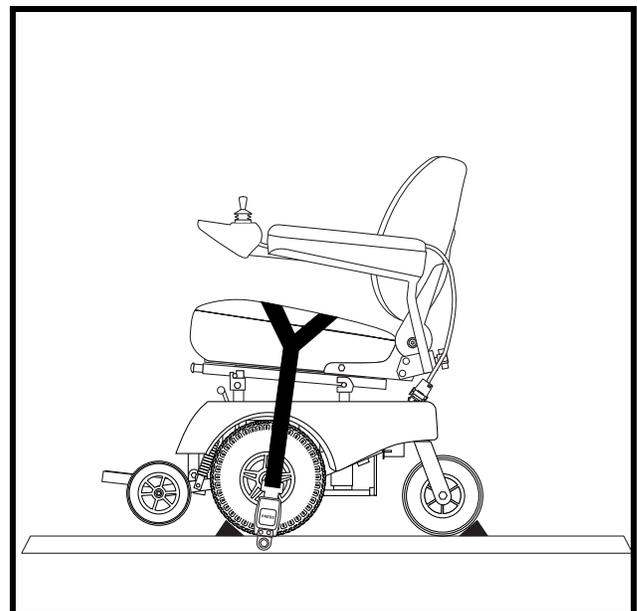

Figure 9. Y-Strap Positioning
- Secure the mobility device to the platform by draping the Y-strap over the seat and buckling the strap securely. See figure 9.